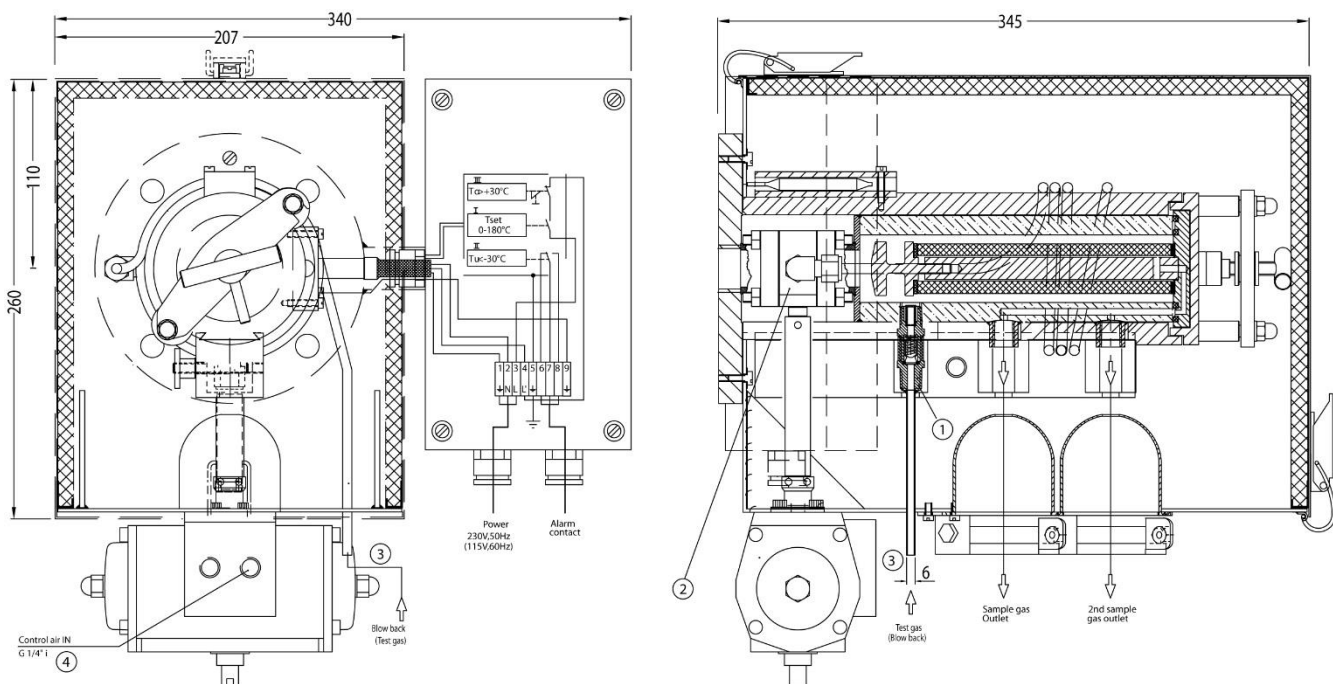

Figure 8 Connection test gas feeding or blow back line
The drive line for actuating the pneumatic drive is connected via a corresponding tube or pipe fitting with G1/4" outside thread ④ (figure 8 and 28 – 31). The required drive pressure is 6,5 up to 9 bar abs.